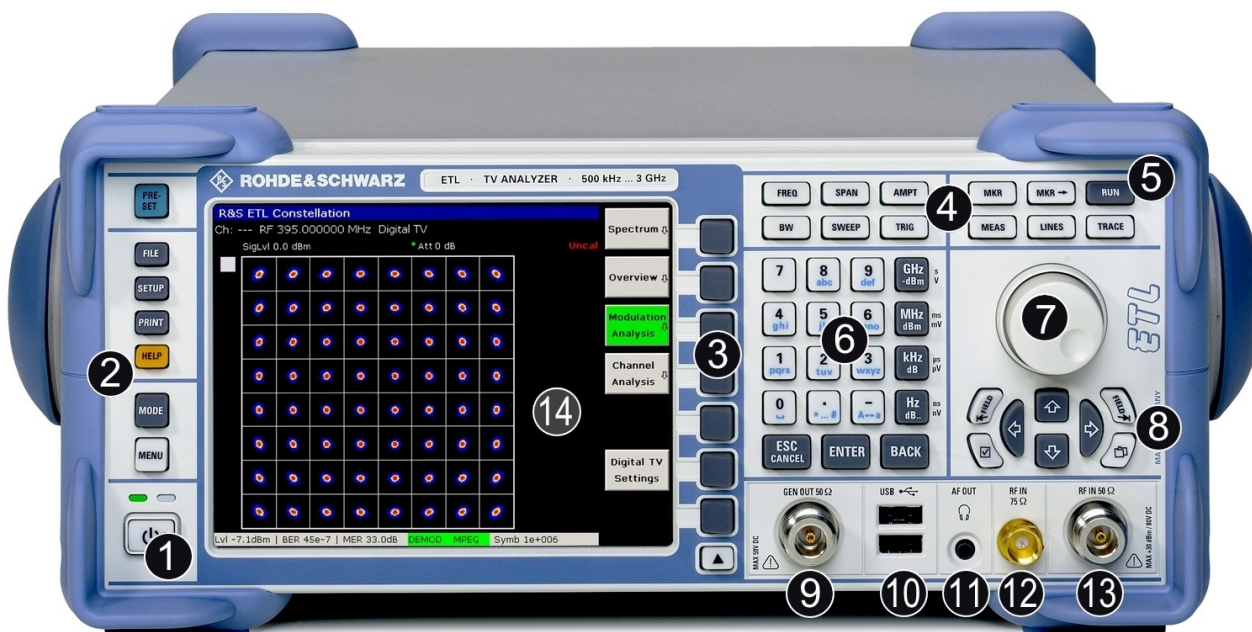

Figure 5-1: Front panel view
See (1) in Figure 5-1.
See (2) in Figure 5-1.
See (3) in Figure 5-1.
See (4) in Figure 5-1.